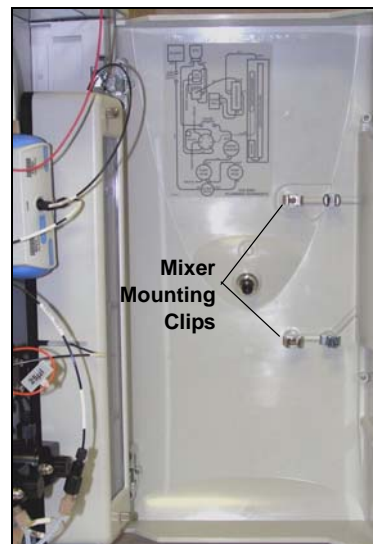

Figure 88. Location of Mounting Clips for the EGC CO₃
2. Install the larger diameter mounting clips (P/N 063642) (see Figure 88).